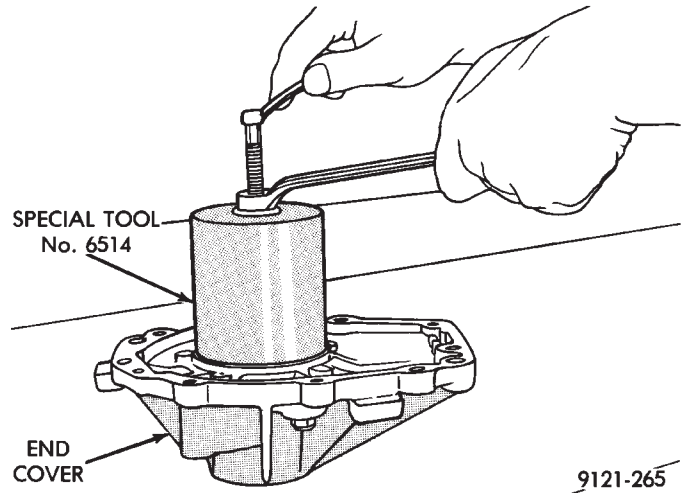

Fig. 3 Bearing Race Removal
- (3) Use special tool No. 6514 and remove the differential bearing race located in the end cover (Fig. 3). The race must be removed to gain access to the seal.